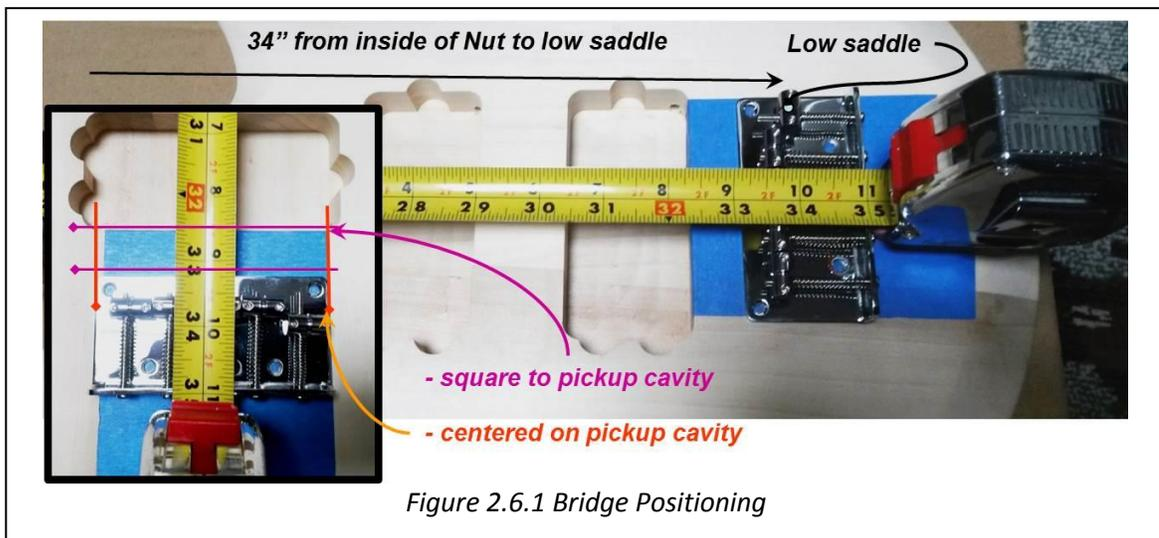

Figure 2.6.1 Bridge Positioning
2.6.1 Positioning and Alignment of the Bridge (Figure 2.6.1)..... - 3 -
2.6.1 Positioning and Alignment of the Bridge (Figure 2.6.1)
2. Using painters or masking tape, tape off a 3" X 4" directly behind the Bridge cavity, then position the bridge so that the low saddle is 34" from the inside of the Nut (Figure 2.6.1).